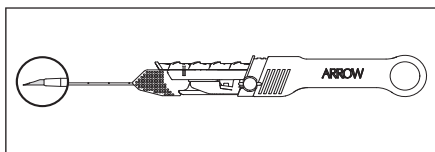

Figure 4
- Return catheter to its original position making sure juncture hub and catheter release tab fit tightly together and the distal tip of catheter is retracted past needle bevel (refer to Figure 4).
- Advance the guidewire slider back to its original position making sure the "0" mark on the slider is visible. This will withdraw the guidewire into the device and return the needle support to its original position (refer to Figure 4).
- ⚠ Caution: Prior to insertion, distal tip of catheter must be fully retracted past needle bevel or catheter tip damage may occur (refer to Figure 4).